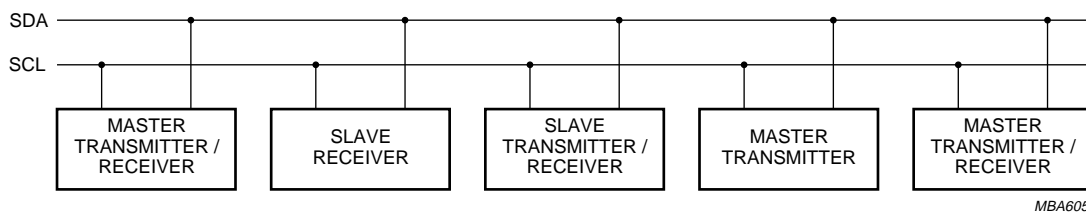

Fig.5 System configuration.
8.3 System configuration (see Fig.5)